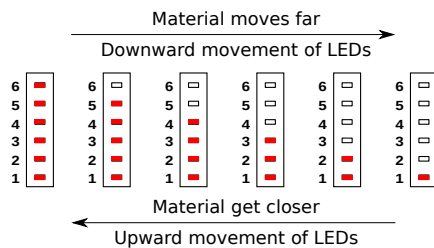

Figure 37: Demonstration of LED Bar Display
- Display Mode: The display mode shows the material distance from the instrument's probe. The movement of LEDs in upward direction depicts the movement of application media towards Casper's probe and vice-versa, as shown in Figure 37.